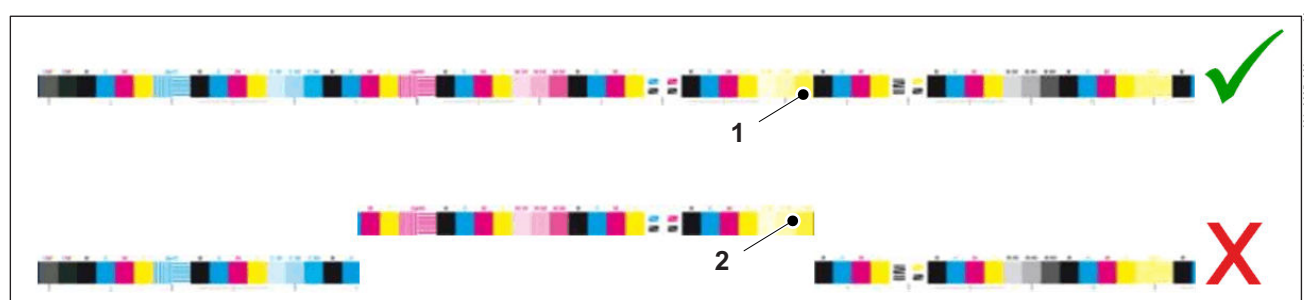

Fig. 8 Quality control strip, partially offset
- Prinect color measuring devices only process quality control strips on one level (Fig. 8/1). Interrupted and offset quality control strips (Fig. 8/2) cannot be measured.